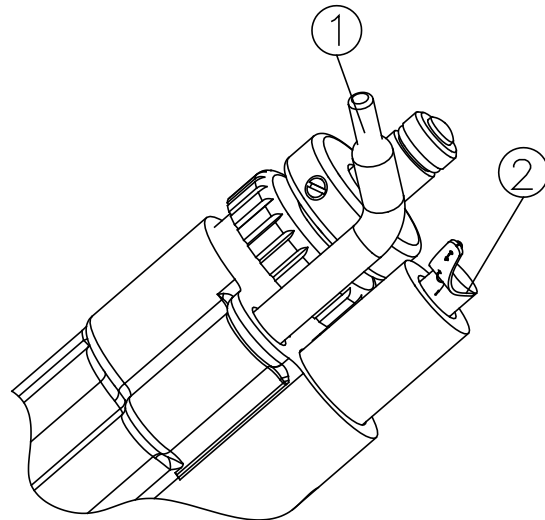

Figure 6: Initial Position of Feed Tube and Brush
1. Install the proper feed tube into the opening in the applicator. See figure 6. Position the tube at approximately as shown in the figure.
2. Insert the 3695-00 (item 2) brush into the barrel. Position it as shown in figure 6.
INITIAL POSITION OF FEED TUBE AND BRUSH (Figure 6)